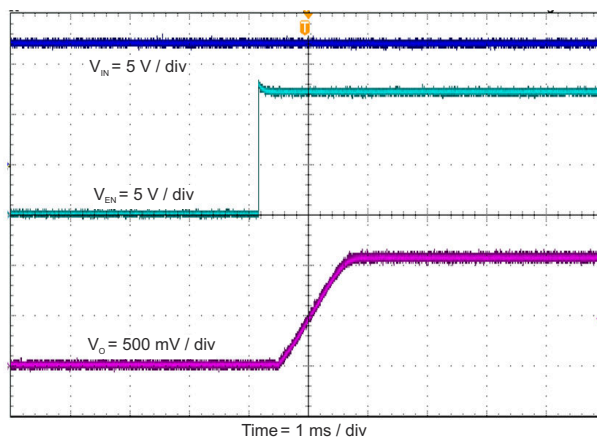

Figure 4-11. Start-Up Relative to EN
The TPS562201EVM-715 start-up waveform relative to enable (EN) is shown in Figure 4-11. Load = 1 Ω resistive.